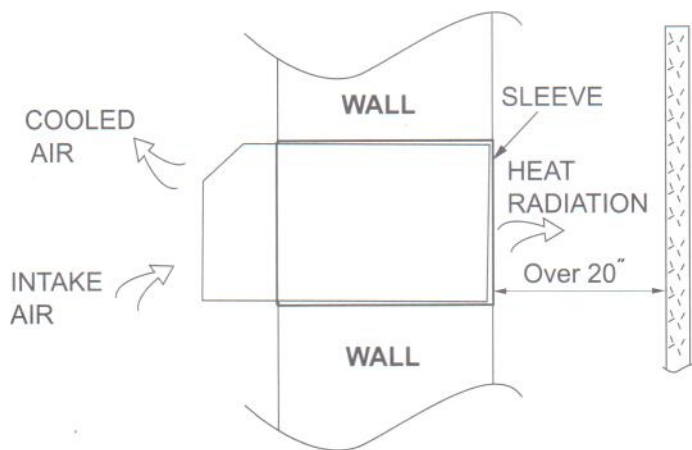

Fig.5
- When installing the sleeve, make certain there is nothing within 20" of the back that would interfere with heat radiation and exhaust air flow. (See Fig.5)